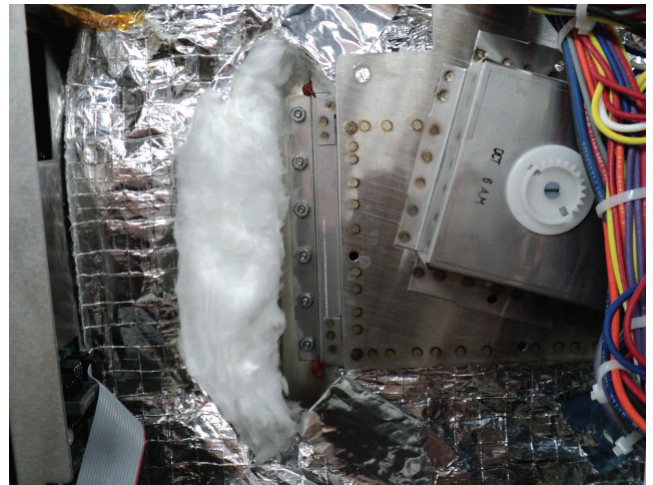

Figure 16
2. Fold insulation back away from feed box exposing the feed box mounting nuts on all four sides of the feed box (Figure 16).